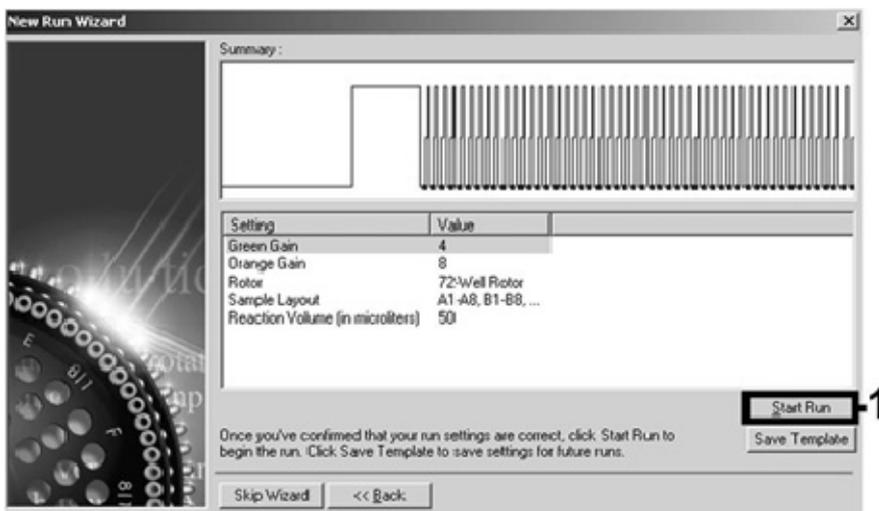

Figure 8. Starting the run. Screenshot for the *artus* HI Virus-1 QS-RGQ Kit is shown as an example.
- The gain values determined by the channel calibration are saved automatically and are listed in the last menu window of the programming procedure (Figure 8). Click “Start Run”.